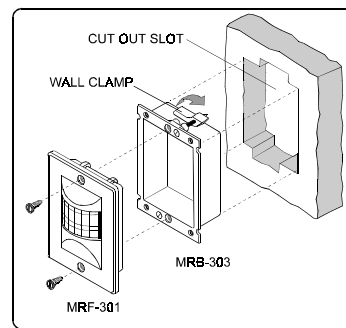

Figure 5. MRK-302 Flush Mounting Kit Installation
2) **Flush mount kit** (model MRK-302). The kit includes a wall plate bracket (model MRF-301) and installation box (model MRB-303). Using supplied drawing, carefully and accurately cut a slot in the wall to accommodate installation box. Assemble items per Figure 5. When the two screws are secured the two wall clamps on the MRB-303 rotate and lock the installation box in place. Mount detector unit on wall plate bracket (MRF-301) and attach bracket to installation box with 2 screws (supplied).